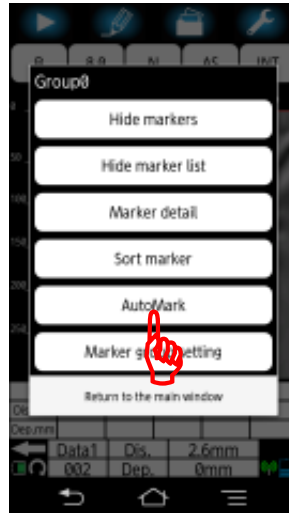

Figure 6-9 Tap **[AutoMark]** menu
- (2) The marker operation screen shown in Figure 6-9 appears. Tap **[AutoMark]** menu.